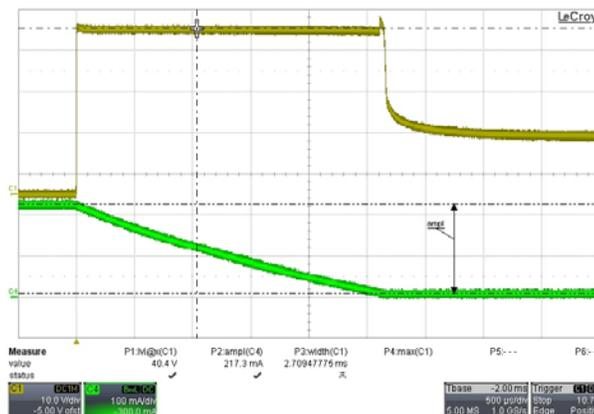

Figure 4. Repetitive Clamping Energy Test
2. Testing particulars, 2M pulses, $V_{bat} = 15\text{ V}$, 63 Ω, 390 mH, $T_A = 25^\circ\text{C}$. (See Figure 4)